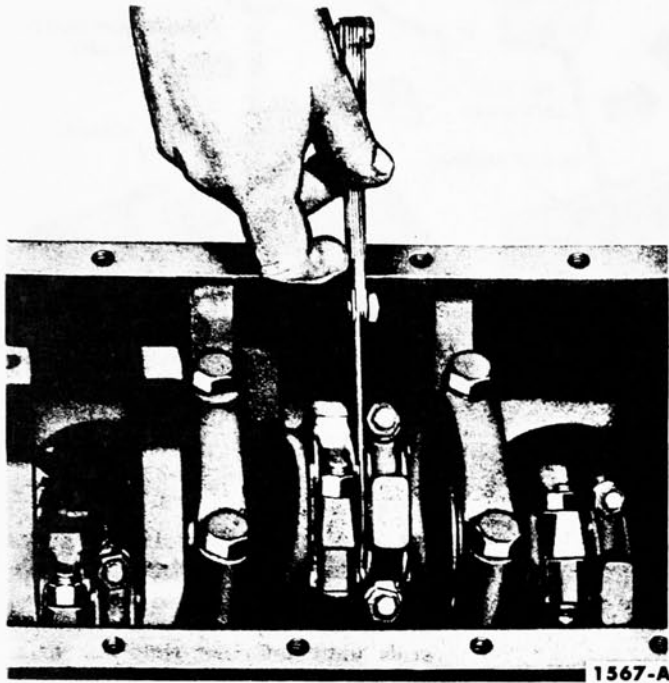

FIG. 38—Connecting Rod Side Clearance
7. After the piston and connecting rod assemblies have been installed, check the side clearance between the connecting rods on each crankshaft journal (Fig. 38).